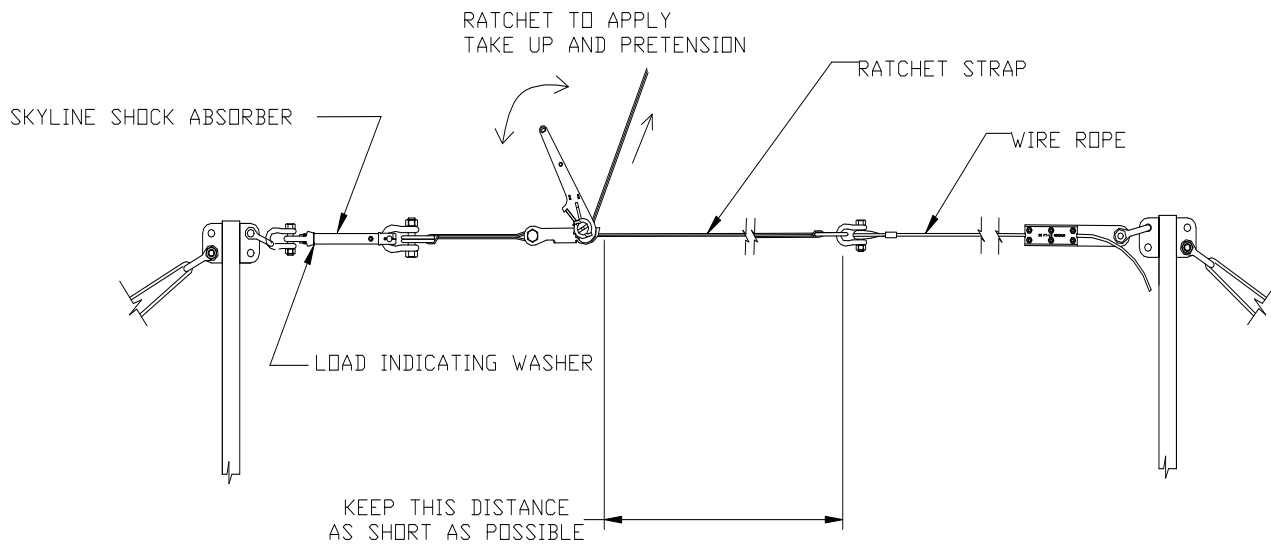

Figure 4
29. Tighten the ratchet load binder until the line tension just releases the load-indicating washer of the shock absorber allowing it to spin free. This washer is located just under the eye of the shock absorber (see Figure 4). A freely spinning washer indicates that the cable has been pre-tensioned to 1000 lb.
The Skyline™ Horizontal Lifeline pre-tension should be checked prior to each use by inspecting the load-indicating washer on the Skyline™ Shock Absorber for freedom of movement (see Figure 4). If the washer does not spin freely, the lifeline tension must be increased using the 3-in. Ratchet. Ratchet the strap tighter until the load-indicating washer spins freely again.